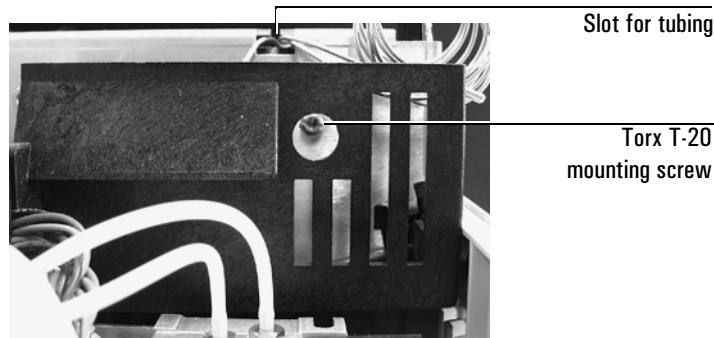
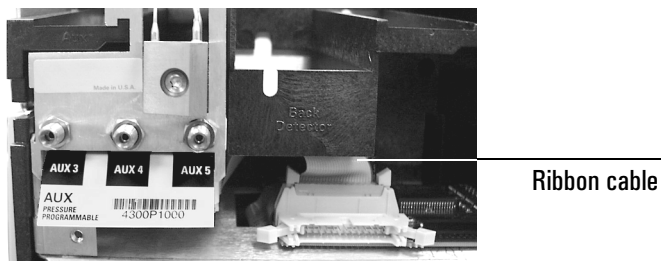
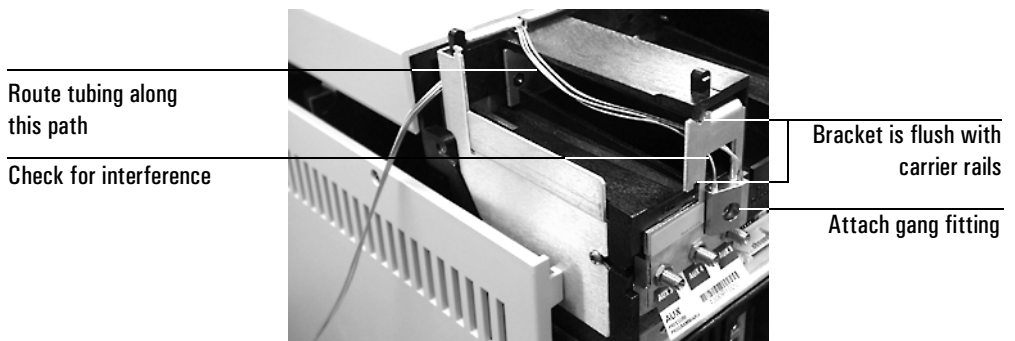

Figure 4 Removing the auxiliary flow manifold
Figure 7 Routing the ribbon cable
Figure 8 Manifold, after installation
4. Remove the Torx T-20 mounting screw from the front of the manifold. See Figure 4.
5. Disengage the tubing from the slots in the chassis so that the gang fitting on the manifold can be removed easily. See Figure 4.
3. If the tubing from the gang fitting bends to the left, reshape it so that it bends up and back from the block as shown in Figure 8.
- Be sure the left tube clears the inner edge of the bracket. See Figure 8.
5. Route the ribbon cable to the right side of the manifold assembly as shown in Figure 7. Then, slide the manifold and bracket assembly into the Aux slot until the bracket seats flush against the end of the rails. See Figure 8.
6. Route the gas tubing behind the manifold, over the top of the chassis, and through the slots as shown in Figure 4 and Figure 8.
8. Secure the manifold in place using the Torx T-20 mounting screw. See Figure 4.